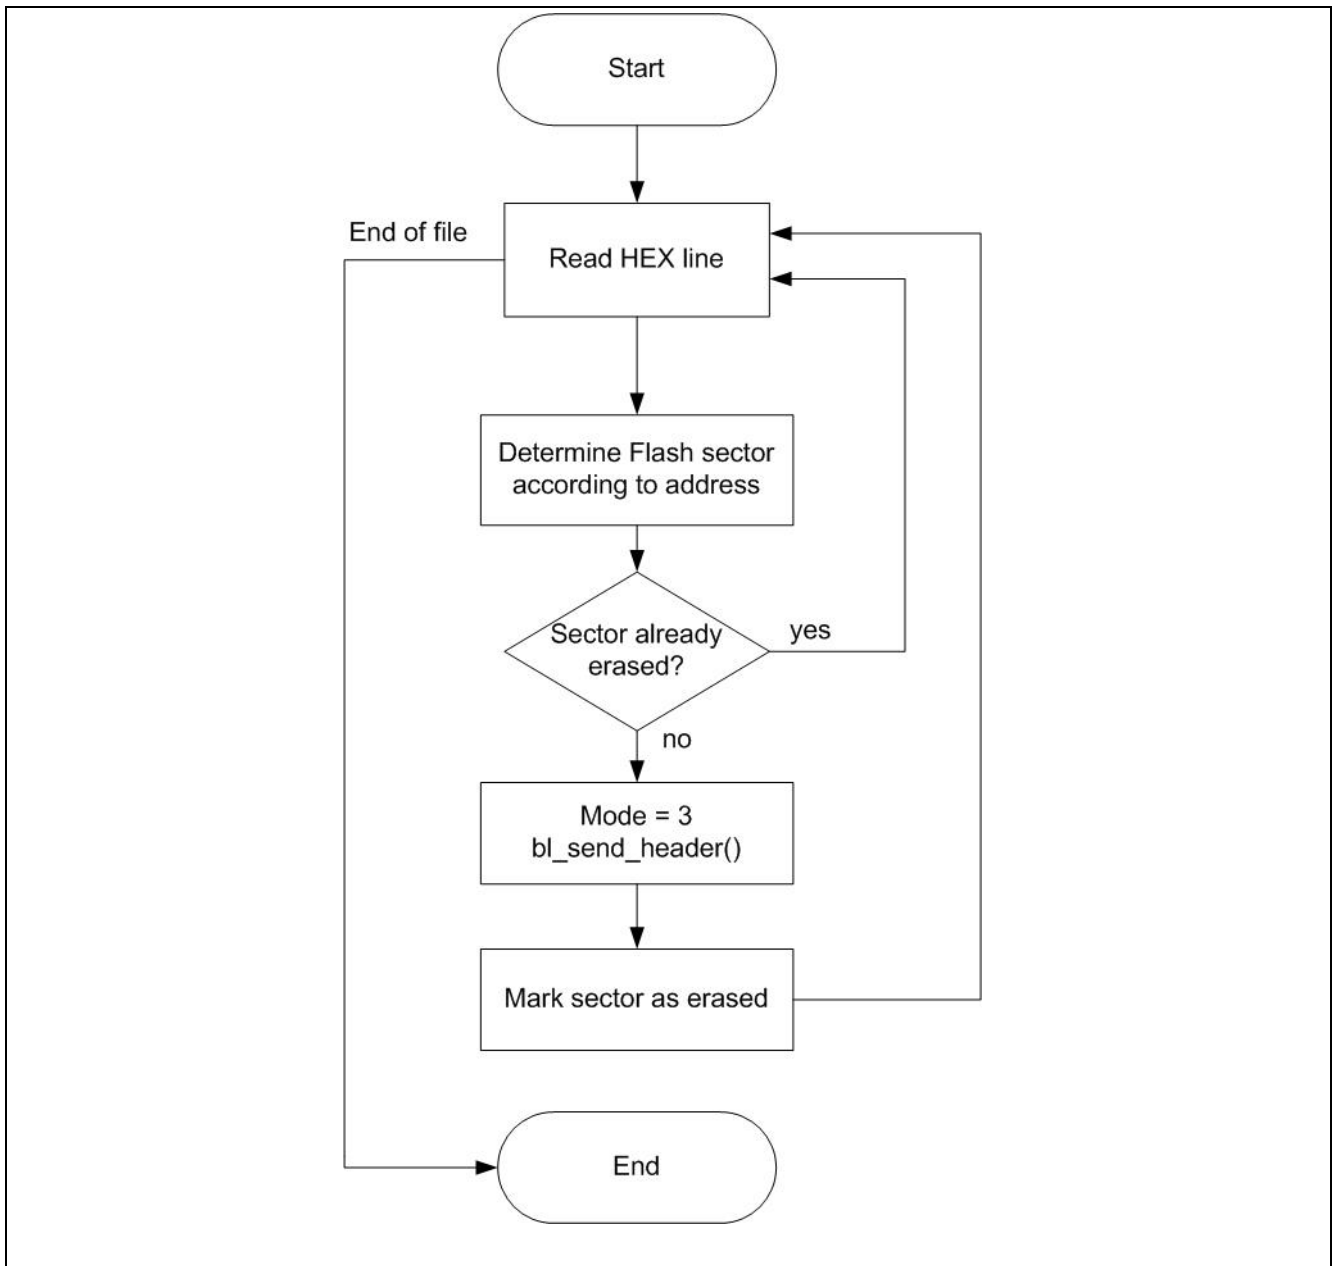

Figure 7 Flash erase procedure implemented in bl\_erase\_flash()
- The Flash erase procedure is implemented in the function bl\_erase\_flash() shown in Figure 7.